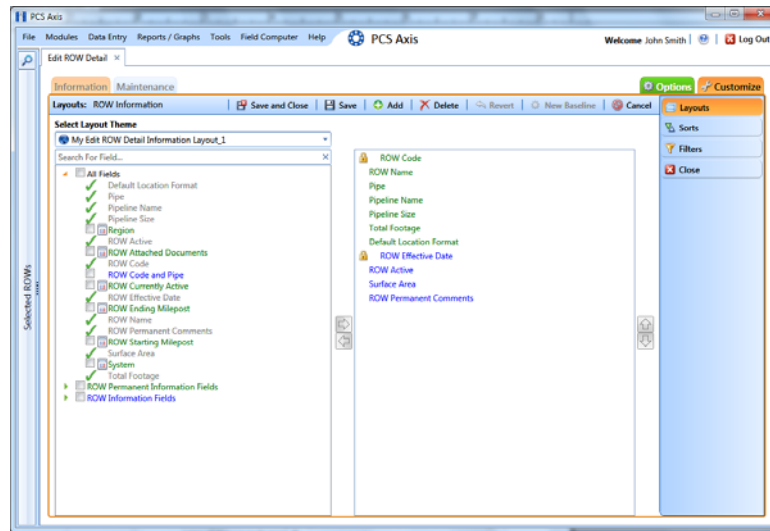

Figure 3-22. Layouts
- 7 Click  **OK** to save changes and return to the *Layouts* page (Figure 3-22).
NOTE: Fields with a lock icon  are required and cannot be removed from the theme, such as  **ROW Code** shown in the previous example (Figure 3-22, page 111).